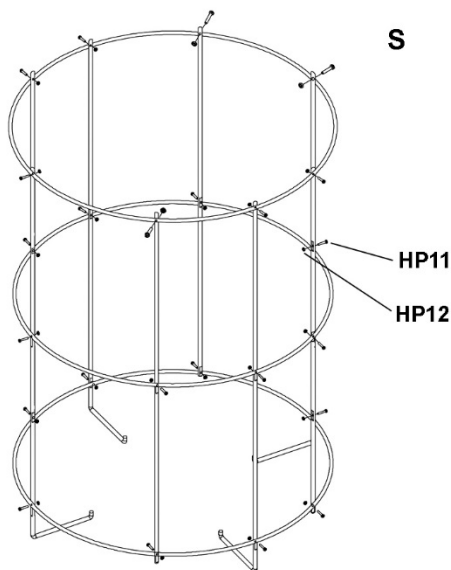

Figure 13
18. Screw the short and long frame supports into the hoops in alternating manner, as shown in Figure 13. Secure with 24 pan head screws and hex nuts (HP11,HP12). (Note: The bends on long supports point inward as shown.)